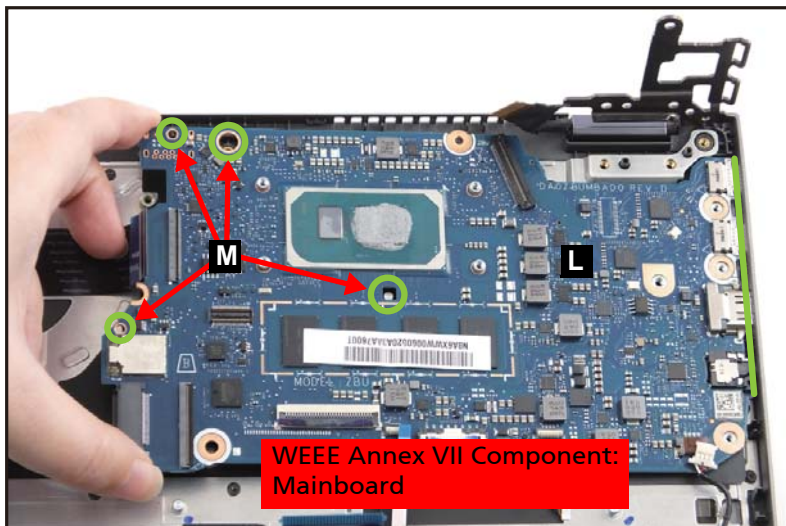

Figure 1-33. Mainboard Removal
13. Release the mainboard (L) from the I/O ports slots and guide pins (M) on the top assembly. Then remove the mainboard (Figure 1-33).